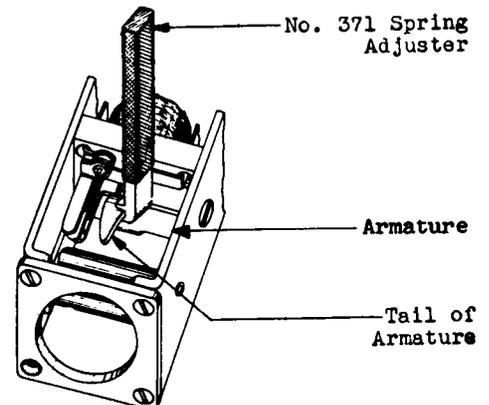

Fig. 10 - Method of Adjusting Tail of Armature
(2) If the relay fails to meet its operate requirement, adjust the contact separation and contact follow as covered in 3.08 and 3.09.
(3) If the contact separation and contact follow are close to their respective minimum values and the relay fails to meet its operate requirement, it may be due to the tail of the armature being distorted so that the armature gap does not decrease uniformly as the relay operates, or due to an excessive gap between armature and core when the armature is in its operated position.
(4) If the tail of the armature is distorted, remove the relay from the mounting as described in 3.002 and operate the armature manually, noting that the separation between the armature and core is least when the armature is in the fully operated position. Should this separation be less at any other point, adjust the tail of the armature with the No. 371 spring adjuster applied as shown in Fig. 10. Hold the armature in the operated position and adjust the required portion of the tail of the armature by exerting a slight pulling force on the spring adjuster (toward the front of the relay). Exercise care when adjusting the tail of the armature since the slightest deformation may affect the correct operation of the relay. After each adjustment of the tail of the armature, operate the armature manually and recheck the separation between each point on the armature and the core as the armature is being operated.
(5) If the gap between the armature and core is excessive when the armature is in the operated position, reduce the gap using the procedure outlined in 3.10 for increasing the gap, except that in reducing the gap, adjust the armature on both sides of the offset portion in a direction toward the core.